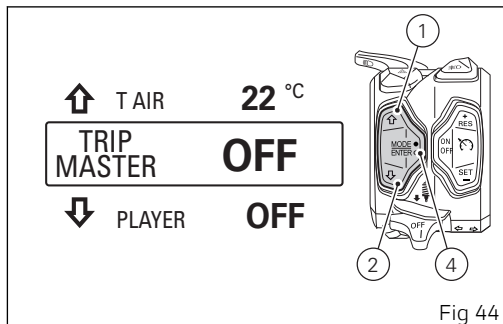

Fig 44
To activate the Trip Master function, use buttons (1) and (2) to view "TRIP MASTER OFF" within the Menu and press button (4) (Fig 44).